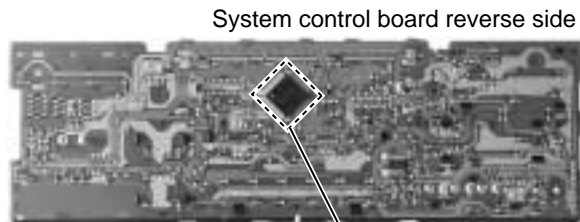

Fig.24
■ Matters that require attention during replacement of IC400 (See Fig.24 and 25)